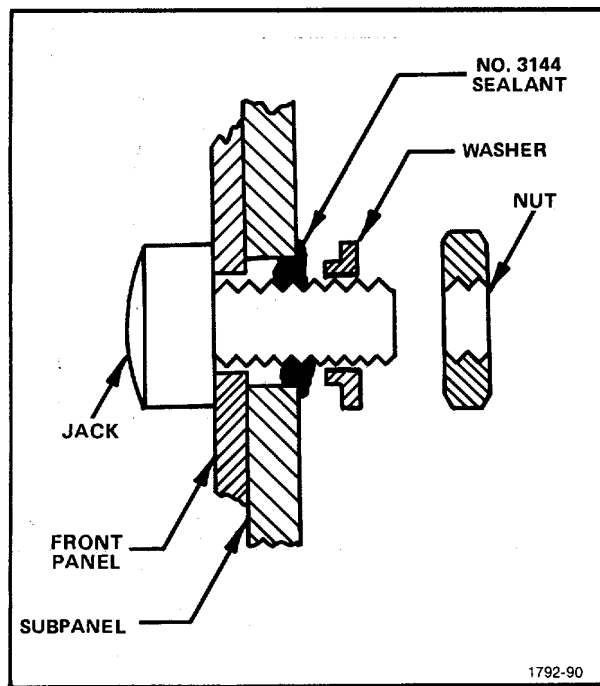

Figure 5-37. Detail of front panel jacks.
31. Watertight sealing procedures for the Front Panel jacks of the X-Y Output Module, 016-0606-00 (see Fig. 5-37)
3. Form a bead of No. 3144 sealant around the Jack/Subpanel interface as shown in Fig. 5-37.